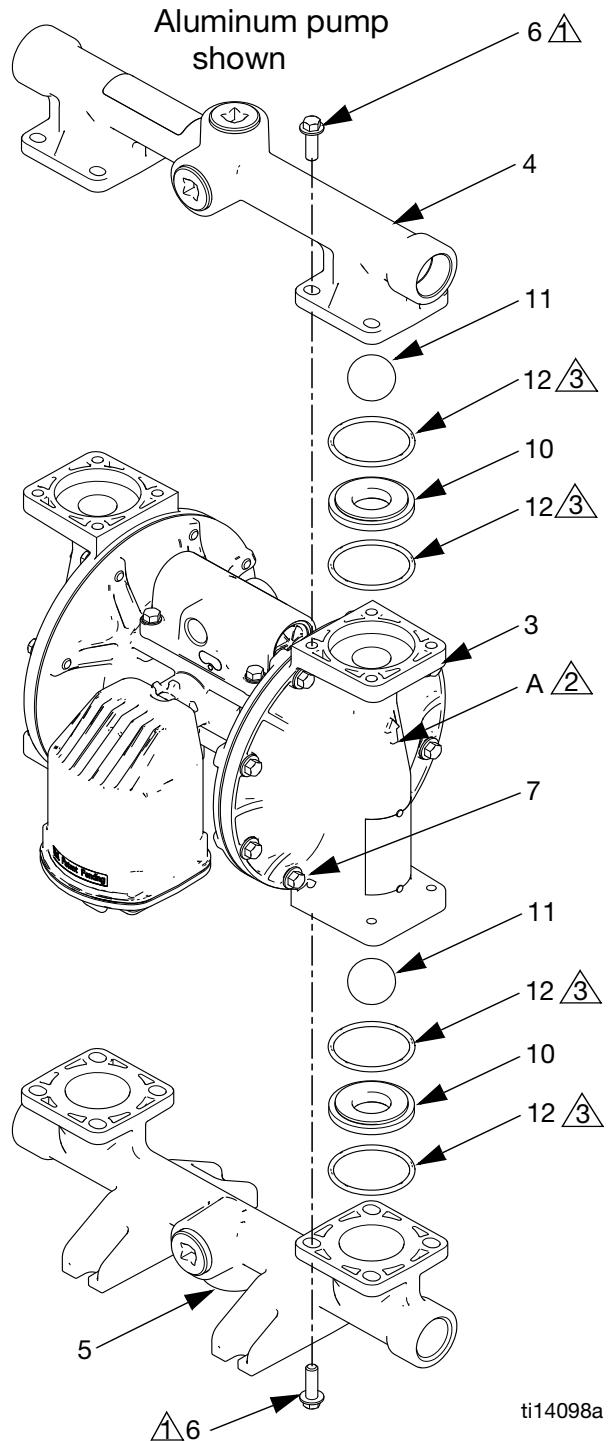

FIG. 7. Ball check valve assembly
3. Use a 10 mm socket wrench to remove the outlet manifold fasteners (6). See FIG. 7.
4. Remove the o-rings (12, *not used on some models*), seats (10), and balls (11).
5. Turn the pump over and remove the inlet manifold. Remove the o-rings (12, *not used on some models*), seats (10), and balls (11).
2. Reassemble in the reverse order, following all notes in FIG. 7. Be sure the ball checks (10-12) and manifolds (4, 5) are assembled **exactly** as shown. The arrows (A) on the fluid covers **must** point toward the outlet manifold (4).
- ➡ Arrow (A) must point toward outlet manifold.